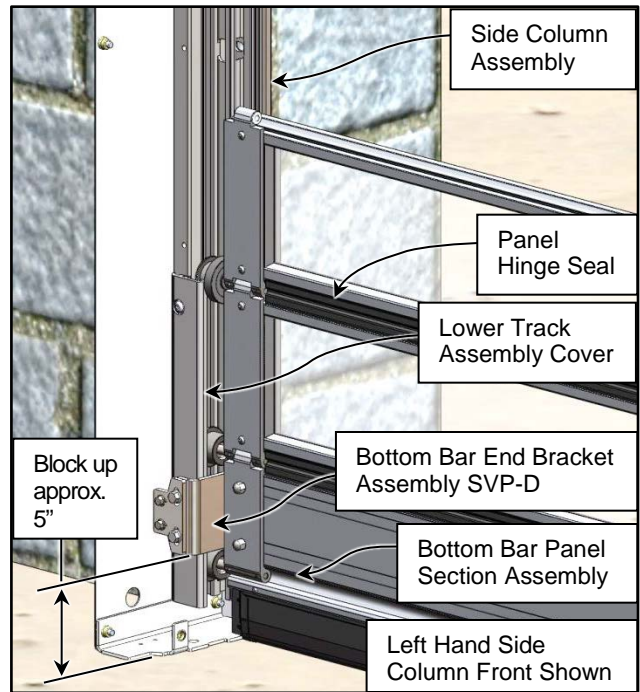
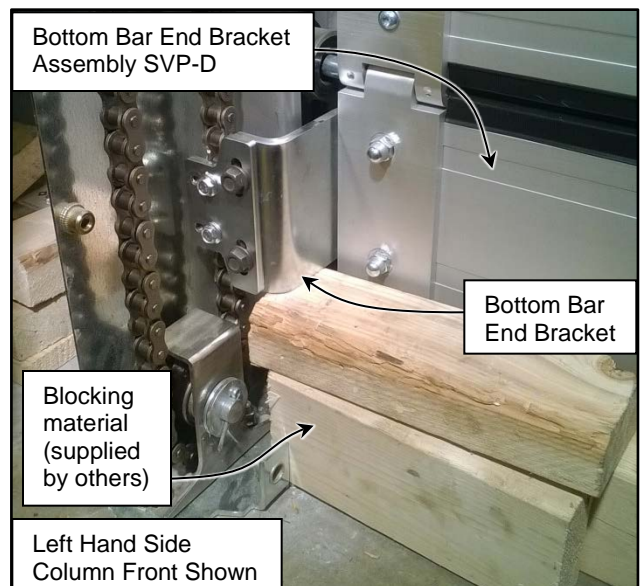

Figure 31
Figure 32
2. Install the bottom Lower Track Assembly Covers on the Lower Track Assemblies as shown. (See Figure 31)
3. Locate and identify the bottom bar section for the panel assembly. It will be marked #1. Orient and place the bottom bar into the bottom section of the lower track assembly as shown. (See Figure 31)
4. On the front side block up the bottom bar approximately 5" as shown. The bottom seal should just be touching the floor enough to create an adequate seal. The method shown is just a suggestion. (See Figure 31 and Figure 32)